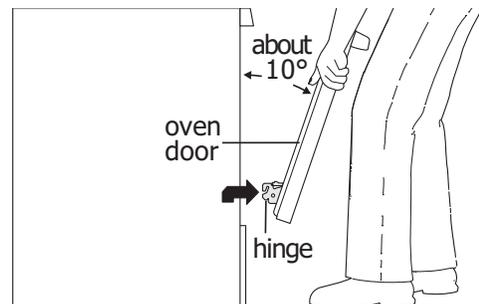

Figure 34: Holding door for removal
2. Pull the door hinge locks on both left and right door hinges down from the oven frame completely towards the oven door (See Figure 34). A tool such as a small flat-blade screwdriver may be required.
4. Push the door hinge locks up towards and into the oven frame on both left and right oven door hinges to the locked position (See Figure 34).